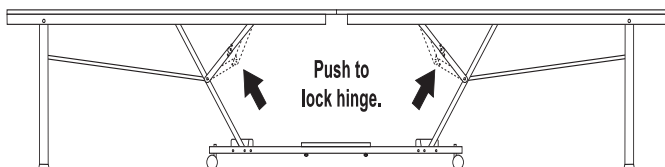

Figure 4
4. Lock all four center hinges. See Figure 4.